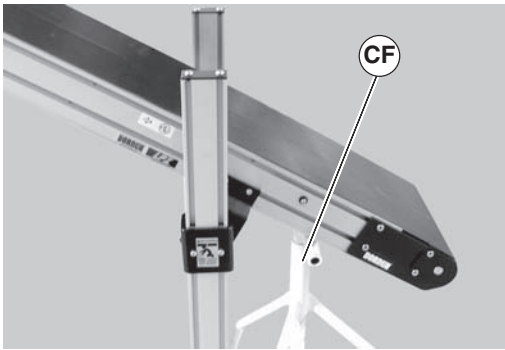

Figure 54
1. Place temporary support (Figure 54, item CF) under conveyor sections.